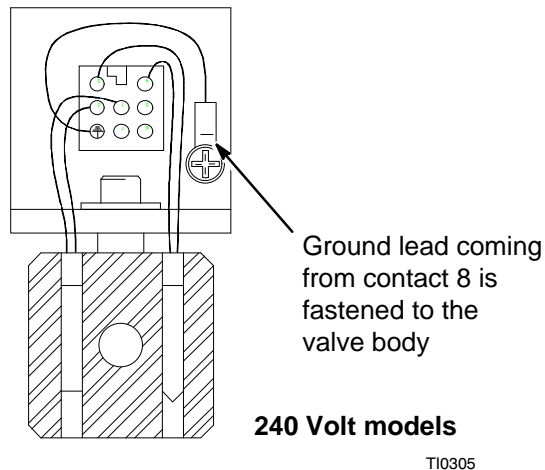

Fig. 4
3. Verify that socket contact E on six pin models (see Fig. 5) or contact eight on eight pin models (see Fig. 4), inside control panel receptacle, is connected to true earth ground.